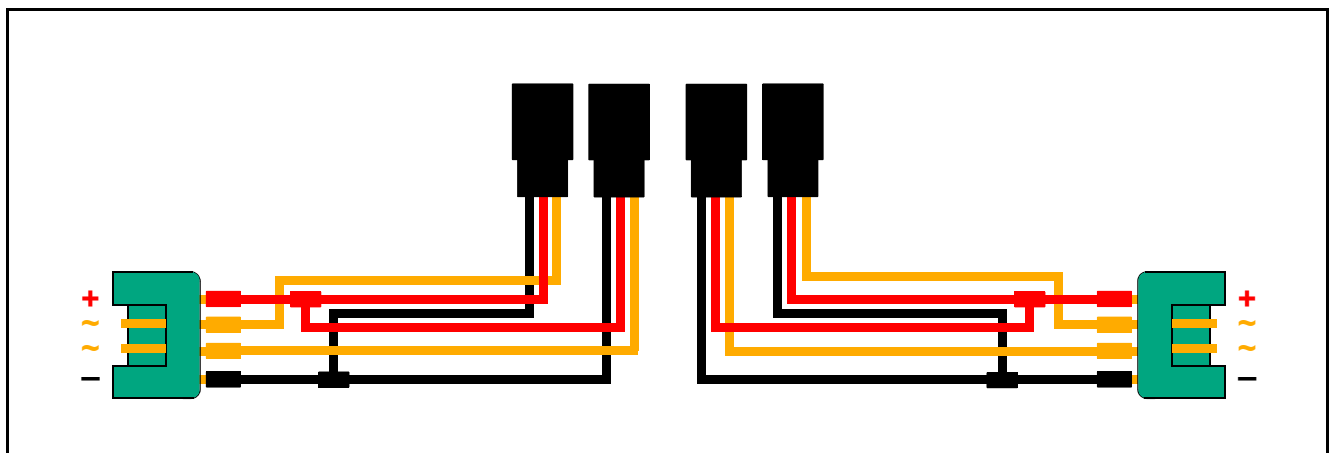

Fig.53: Connection diagram from wing servos to receiver.
- solder wires of the cables to the connectors “MPXF” as shown in figure 53 and cover with the heat shrink sleeves.